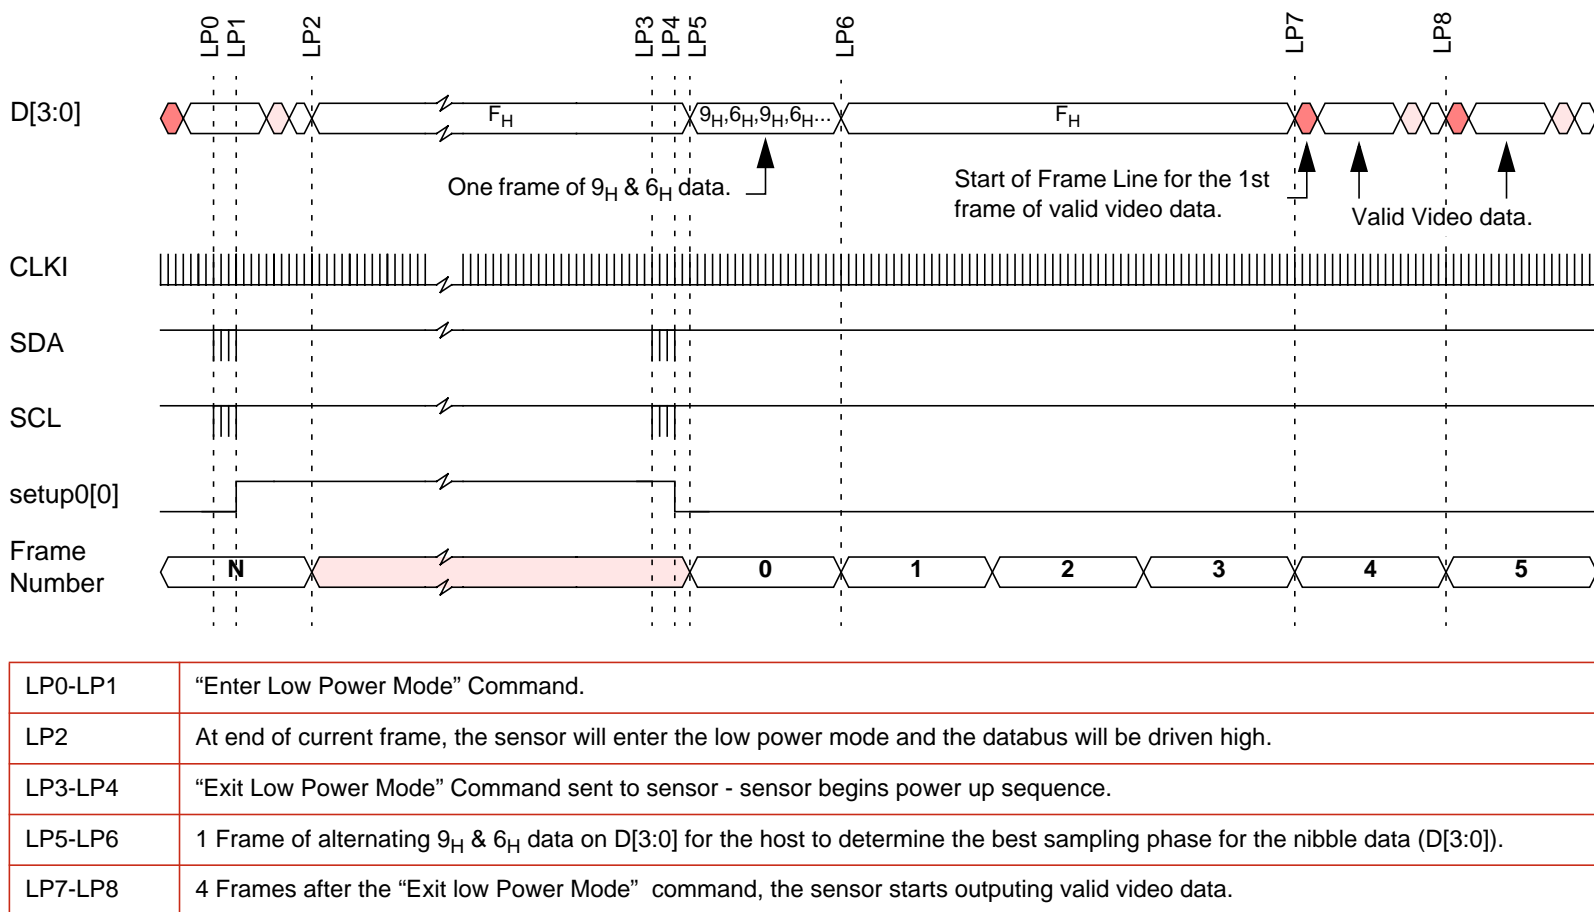

Figure 30 : Entering and Exiting Low Power Mode (example is 4wire mode).
On power-up a sensor will pull all data lines high and these lines will remain high while the device is in the power up default, low power state. The device is removed from this low power mode by the I2C host writing to sensor register, setup0 [address 10₁₆]. When the device exits the low power mode it will follow a defined power up sequence, please see Figure 30 for more details. Upon completion of the power up sequence the sensor will begin streaming video.
8.8.2 Low-Power Mode (Figure 30)